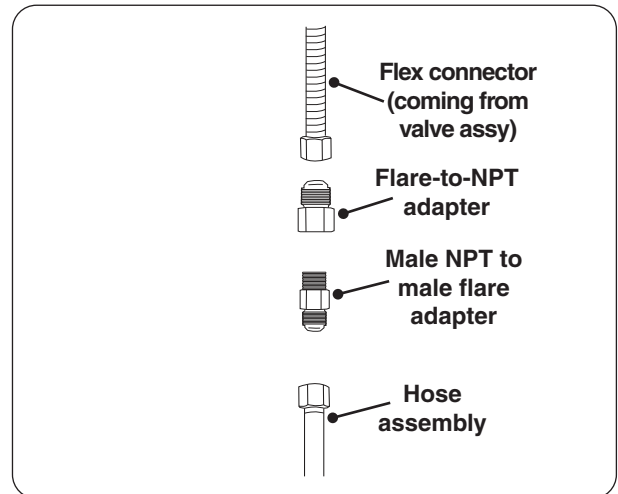

Fig. 31-1 Connecting flex to hose assy
1. Connect the L.P. regulator hose assembly (not included) to the flex connector that is coming off of the valve assembly (see Fig. 31-1).